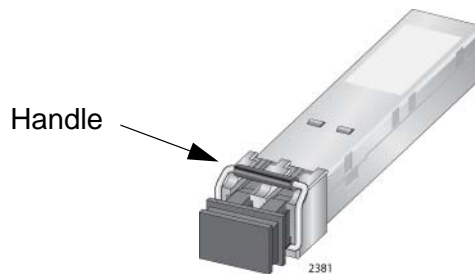

Figure 116. Handle on an SFP+ Transceiver
2. If you are installing the SFP+ transceiver in slot 1 or 3, orient it with the handle on top, as shown in Figure 116. To install it in slot 2 or 4, orient it with the handle on the bottom.